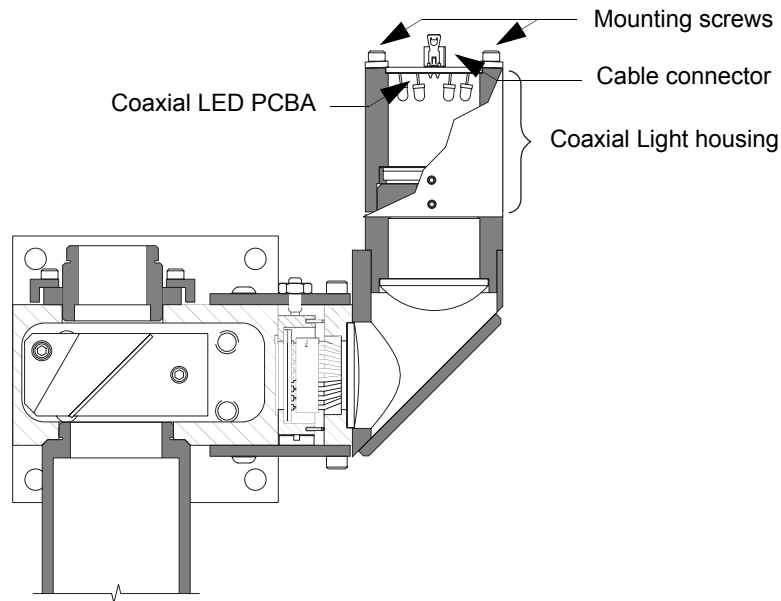

Figure 9-31 Coaxial LED PCBA Location
4. Disconnect the cable from the Coaxial LED PCBA; see Figure 9-31.